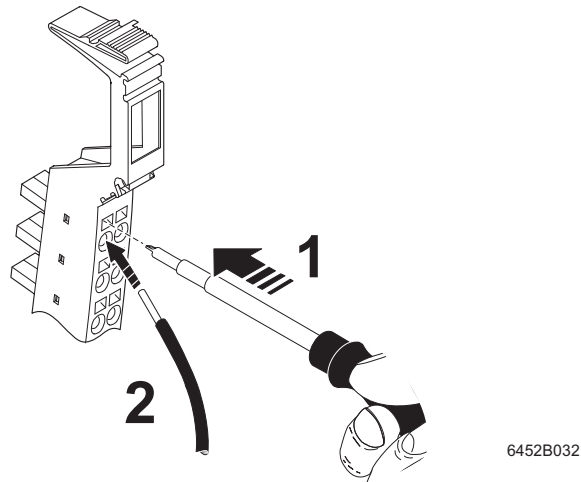

Figure 4-6 Connecting unshielded cables
- Push a screwdriver into the actuation shaft of the appropriate terminal point (Figure 4-6, detail 1), so that you can insert the conductor into the spring opening. Phoenix Contact recommends using a SZF 1 - 0.6X3.5 screwdriver (Order No. 1204517; see Phoenix Contact “CLIPLINE” part catalog).
- Insert the conductor (Figure 4-6, detail 2). Remove the screwdriver from the opening. This clamps the conductor.